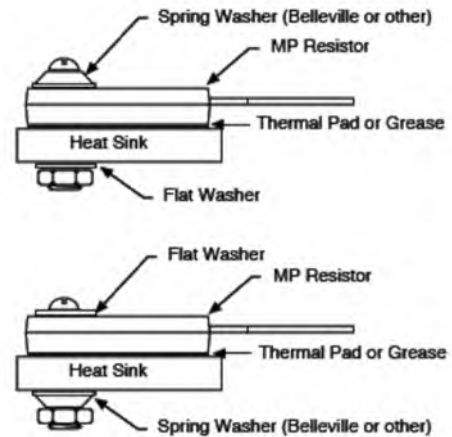

Figure 3 - Screw and Washer Mounting Techniques
- Screw Mounting - Belleville or Conical Washers used with a screw are an effective method for attachment to a heat sink. A Belleville washer is a conical spring washer designed to maintain constant pressure over a wide range of deflection. The washers withstand long-term temperature cycling without variation in pressure. **Figure 3** shows some typical hardware configurations for screw mounting a TO-Style package to a heat sink. Flat washers, star washers, and most split lock washers should not be used in place of Belleville washers since they do not provide a constant mounting pressure and may cause damage to the resistor.